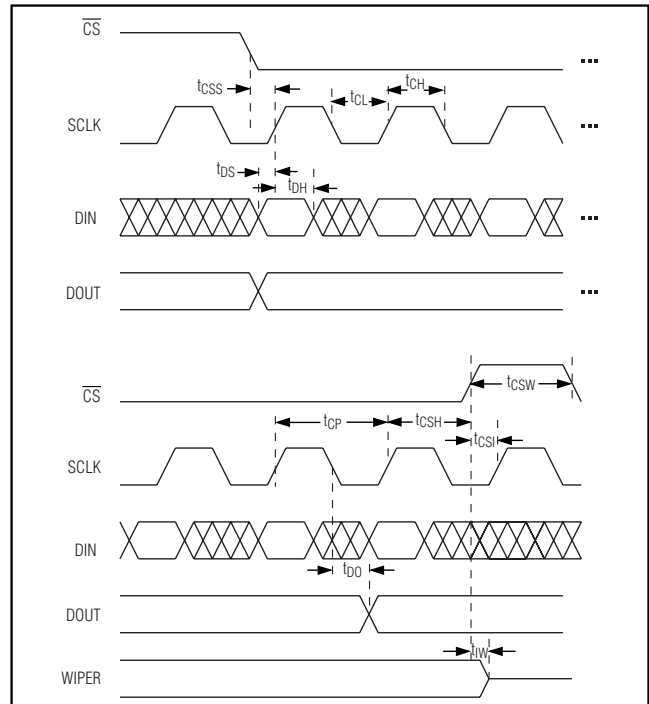

Figure 1. Serial Timing Diagram
| TIMING CHARACTERISTICS (Figure 1) | | | | | | |
The data bits control the position of the wiper (Table 7). A logic low on the chip-select input (CS) enables the device's serial interface. A logic high on CS disables the interface control circuitry. See Figure 1 for serial-interface timing description.